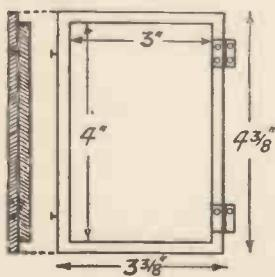
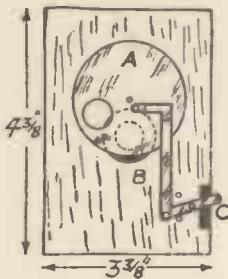

Fig. 3.—The Back of the Camera.
Fig. 4.—Method of fixing the Shutter.
The back is shown at Fig. 3, and consists of two pieces glued together and covered on the inside with black velvet. Attach it to the camera by two small hinges.
**The Shutter.**—The front and shutter are shown complete at Fig. 4. A  $\frac{3}{8}$  in. hole is cut in the centre around which is glued a ring of velvet, as shown by the dotted lines. The shutter parts are shown at Fig. 3. Cut the disc A from tin. Drill a small hole in the centre, and below it cut an opening  $\frac{3}{8}$  in. in diameter. Slightly to the right of the centre drill another small hole. Cut the strip B from
sheet brass, drill the two ends, and then rivet the upper end loosely to the second hole made in disc A. For a rivet use a small nail nipped off close below the head. Lastly, make the lever C from stout brass, drill it as shown, and rivet it to the end of strip B (see Fig. 4).